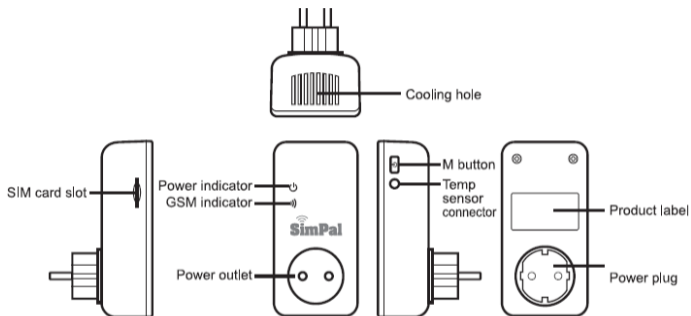

Figure 1: SimPal-T4 instructions
3. **M button** (See 5 on Figure1) can be pressed for about one second to switch on or off the socket output.
**Method 1 :** To press **M** button one second (See 5 on Figure1).